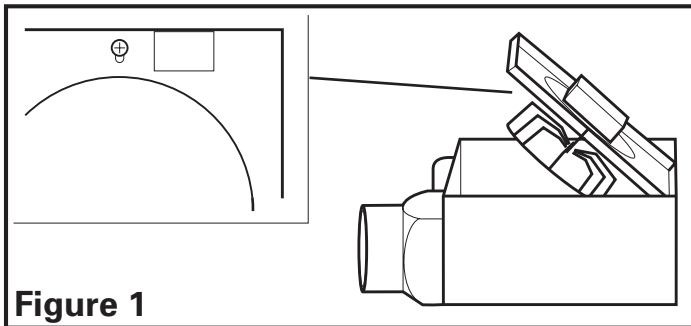

Figure 1
- Remove the fan's venturi assembly, which is secured in place with one screw through the venturi (**Figure 1**). This is a captive screw and will stay installed in the venturi. Keep the venturi assembly and the grill in the carton until needed so they do not get damaged or lost.